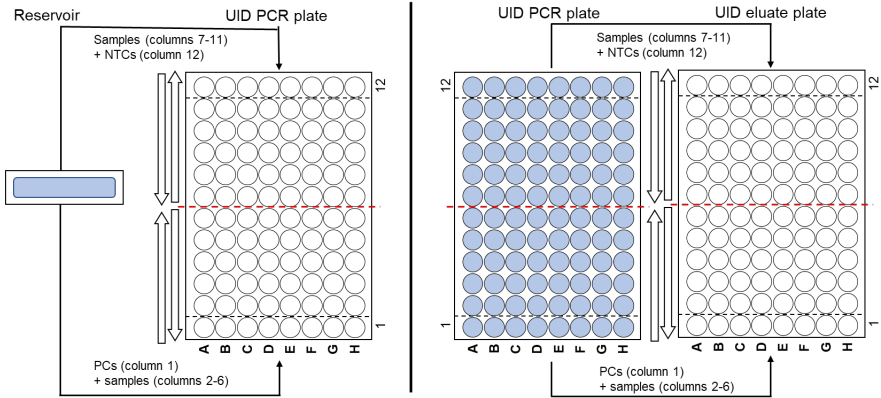

Figure 6: Pipetting scheme used when pipetting from reservoir to UID PCR Plate (left) or UID PCR plate (right) into an UID eluate plate.
1. Use a multi-channel pipette for the following steps. The UID PCR and UID eluate plates have to be arranged parallel to each other and pipetting is done by column (not by rows, Figure 6).